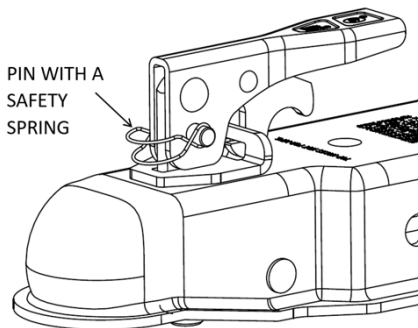

FIG. 4 Correctly installed pin with a safety spring
- ⚠ After properly loading the coupling head onto the 2" ball of the hook, it is necessary to install a pin with a safety spring on the head, as shown in the fig. 4. **Failure to install the protection may result in the coupling head opening while driving and detaching the trailer from the vehicle!**